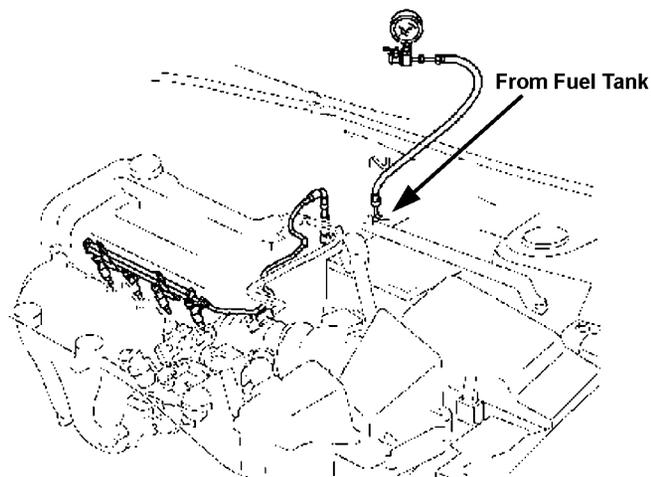

Figure MA014-14
6. Connect a fuel pressure gauge (Snap-on MT3370A or equivalent or use or use a Vantage® graphing meter or MODIS™ Lab Scope Plug-in to read pressure through 0-100 psi transducer and suitable adapter) (Figure MA014-14).